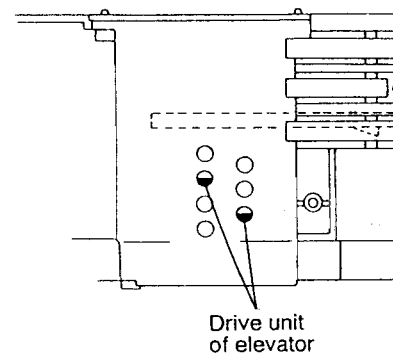
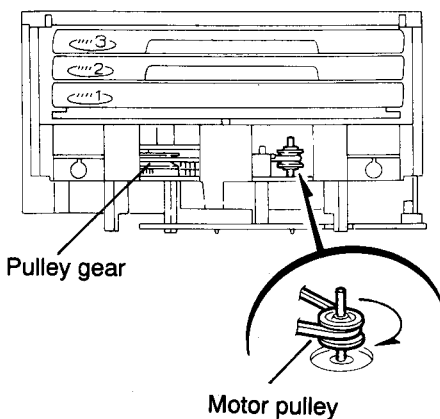

Fig.5-41
Fig.5-42
- [Caution]** In case the driver unit elevator is not at the above position, set the elevator to the position as shown in Fig. 5-41 by manually turning the pulley gear as shown in Fig. 5-42.
13. Manually turn the motor pulley in the clockwise direction until the lifter unit stopper is lowered from the section "E" of CD tray assembly (See Fig.5-42).